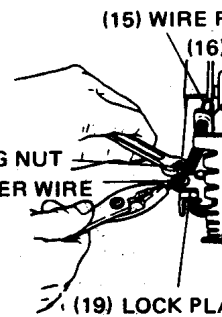
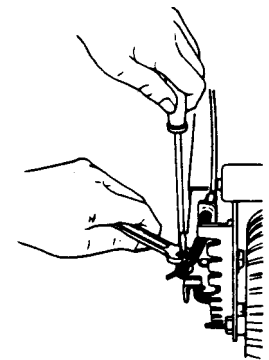

Fig. 8
Fig. 8A
- e. After installation of the adjust wire, loosen fixing nut of lock plate and pull the inner wire lightly with pliers. (Fig. 8) Then fix it by tightening the fixing nut as locking the lock plate with a minus screw driver. (Fig. 8A)
NOTE: If the lock plate doesn't fully disengage from the adjust plate you must adjust the wire by turning the wire receiver counterclockwise and lock the wire receiver with lock nut. (Fig. 8)